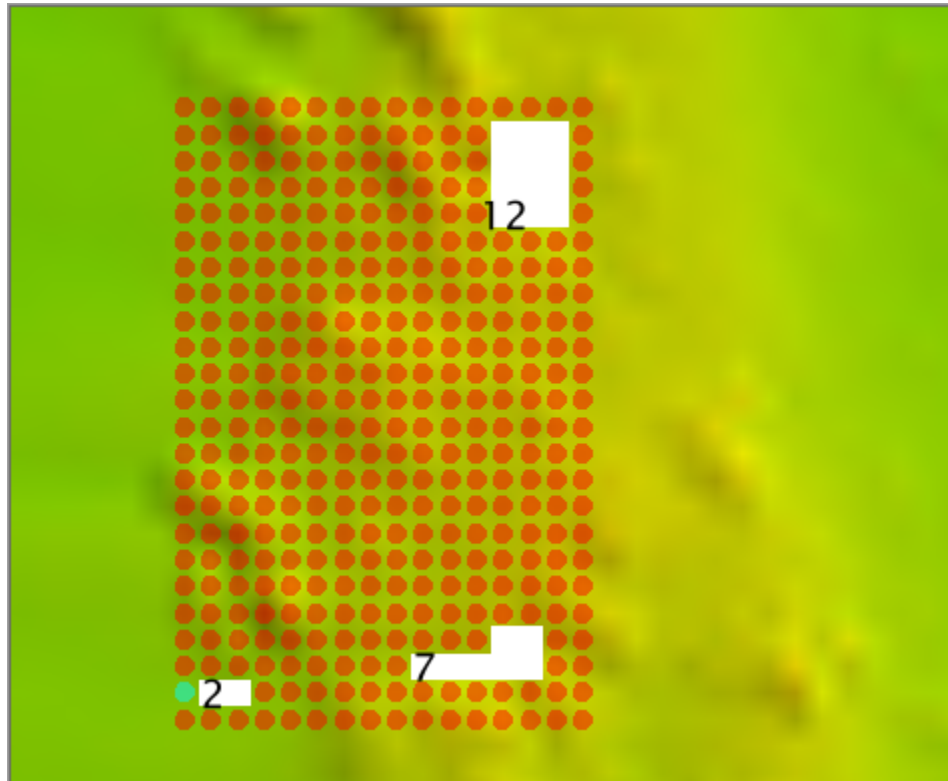

Fig. 2.19: Example for All holes.
- In the example in (Fig. 2.19), the **All holes** setting marks three holes of 12, 7, and 2 nodes.